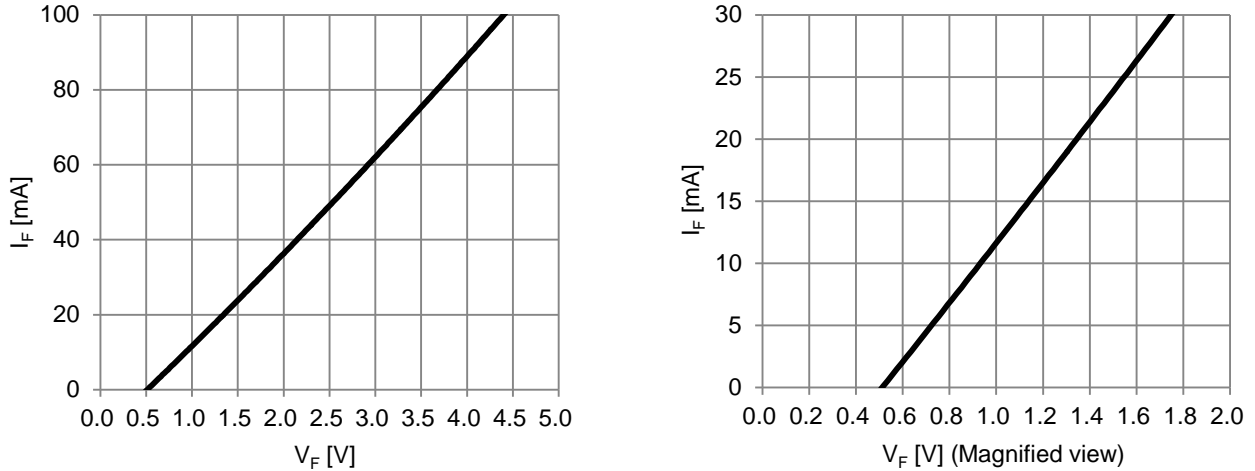

Figure 2. Built-in Bootstrap Diode V_F - I_F Characteristic (@ $T_A=25^\circ C$)
6. The characteristics of bootstrap diodes are described in Figure 2.